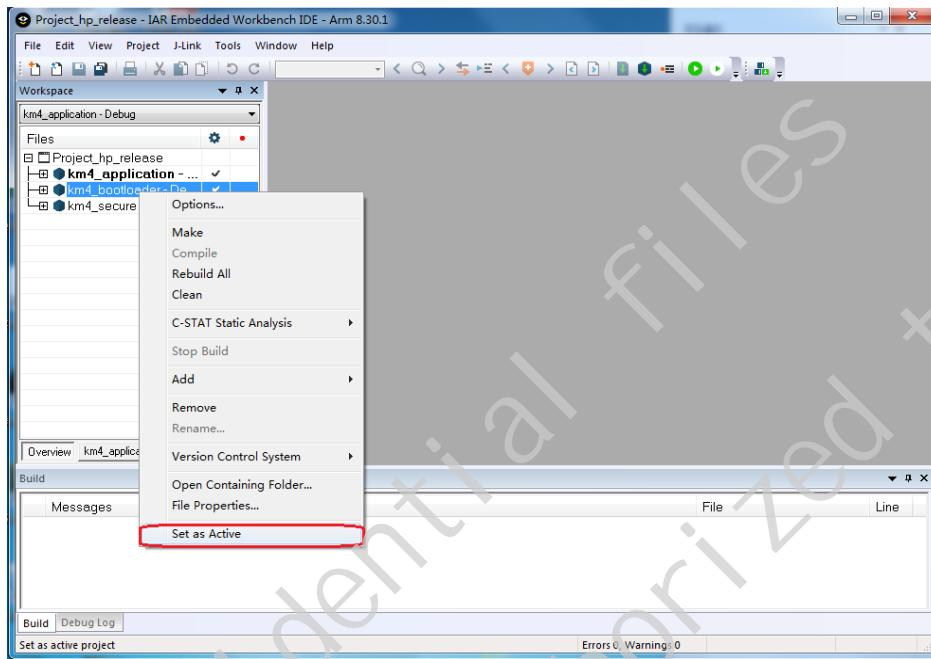

Fig 6-10 Set Target Project as Active
- (1) Set the target project as active project in the workspace:
- Workspace > Overview, right click the target project > Set as Active, as Fig 6-10 shows